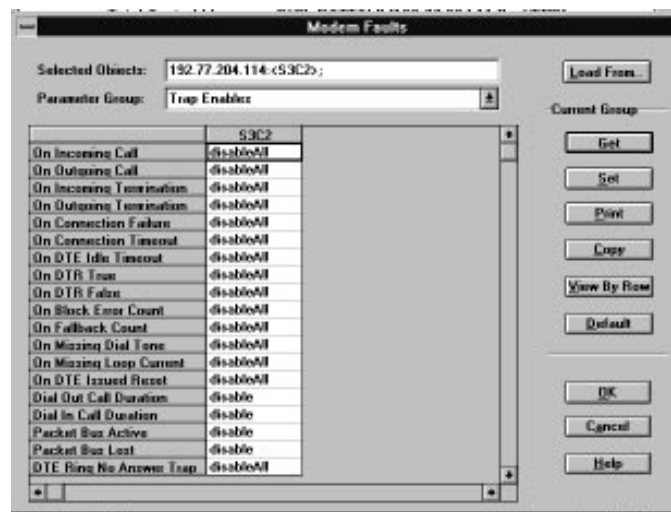

Figure 8-1. Trap Enables Group
- e. In the Parameter Group box, select **Trap Enables**. This is shown in Figure 8.1.